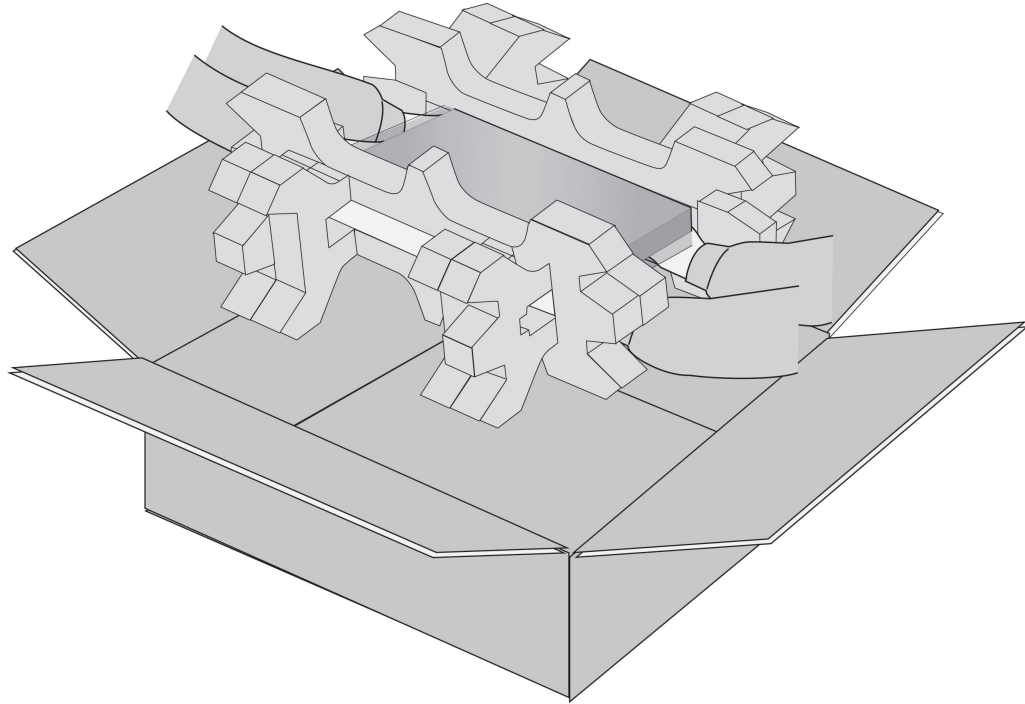

Figure 48. Lifting the Switch from the Shipping Box
3. Lift the switch from the shipping box and place it on a level, secure table. Refer to Figure 48 on page 107.